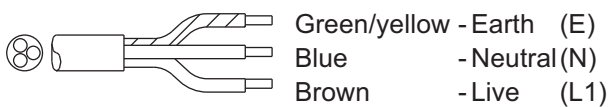

fig. 5
- (fig. 5) In case of 1N~ 220-230V (3-core cable).